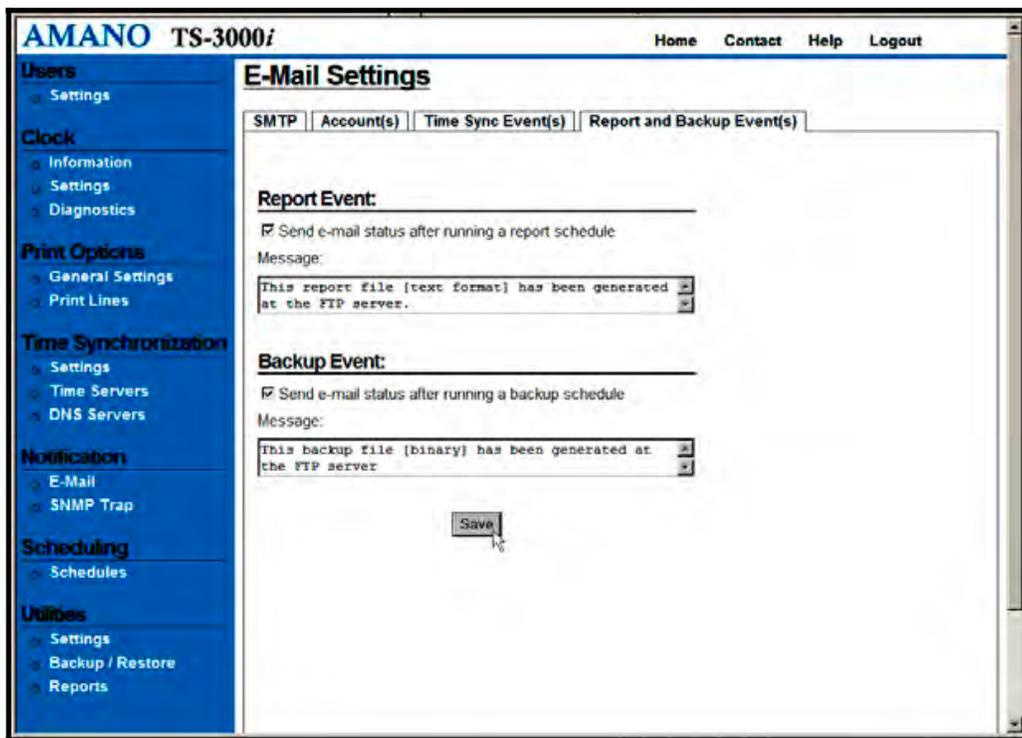

Figure 4-18 E-Mail Settings for Report & Backup Events
- Step 15.** Click on the **Report & Backup Event(s)** tab and the E-Mail Settings screen to select these events for email notification will appear (see Figure 4-18).